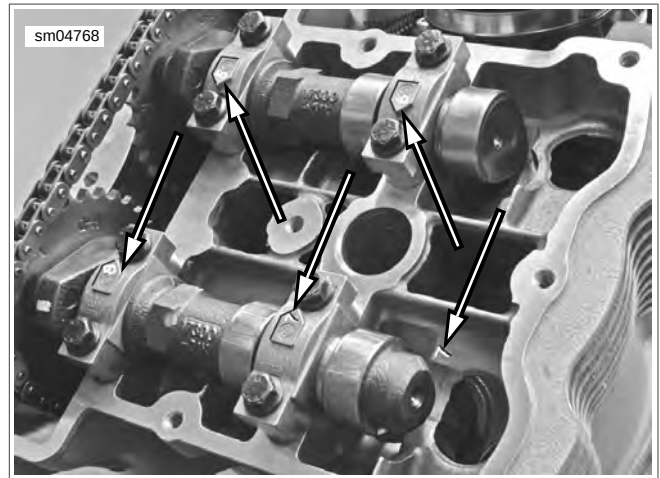

Figure 1-62. Cam Journal Caps
4. See Figure 1-62. Remove cam journal fasteners and caps from the cam needing adjustment.